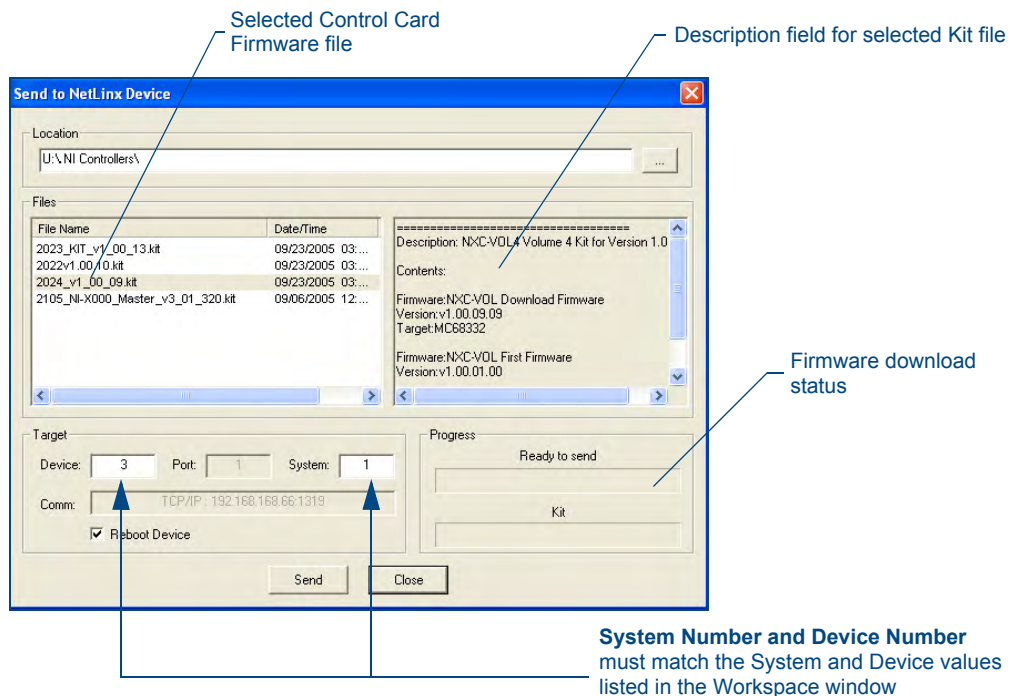

FIG. 10 Select Control Card firmware file for download page (via IP)
8. Select **Tools > Firmware Transfers > Send to NetLinX Device** from the Main menu to open the Send to NetLinX Device dialog (FIG. 10). Verify the target's **Device and System** numbers matches the value listed within the System folder in the Workspace window.
9. Select the Control Card's Kit file from the **Files** section (FIG. 10) (*in our above example we chose to update the NXC-VOLA card*).
12. Click **Send** to begin the transfer. The file transfer progress is indicated on the bottom-right of the dialog (FIG. 10).